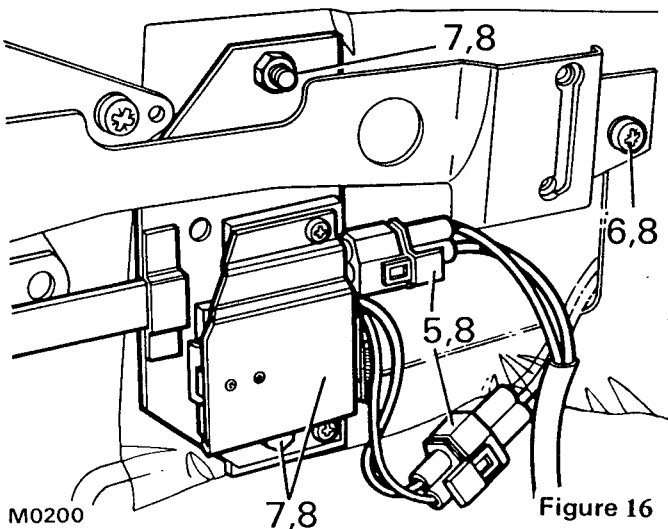

Figure 16
- 5 Peel back protective sheet and disconnect warning light lead plug and relay supply cable plug, see figure 16.